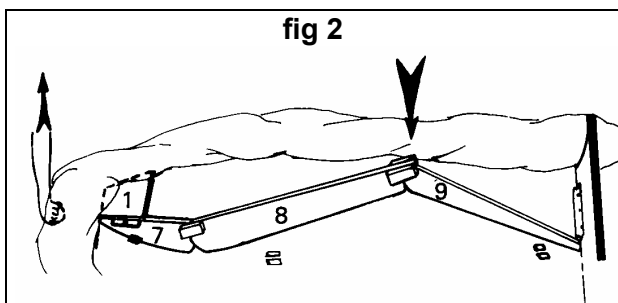
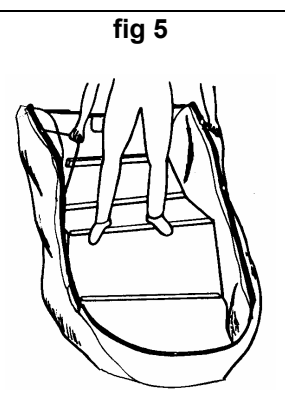

fig 3
fig 6
6. **Respecting the order** : **slide** element (2) against element (1), element (3) against element (2) then slide element (6) against the transom retaining batten (10) [fig 6], and position elements (4) and 5 as an apex. [fig.3]. **IMPORTANT**: Check the good position of the keel into its blocks.